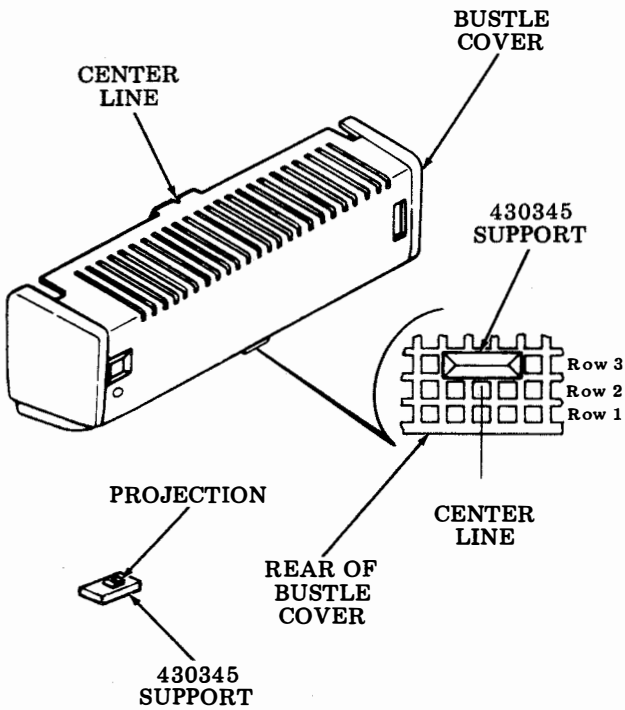

Fig. 6
4.09 Insert the projection of the 430345 support into the rectangular hole in the bottom of the bustle cover as shown in Fig. 6.